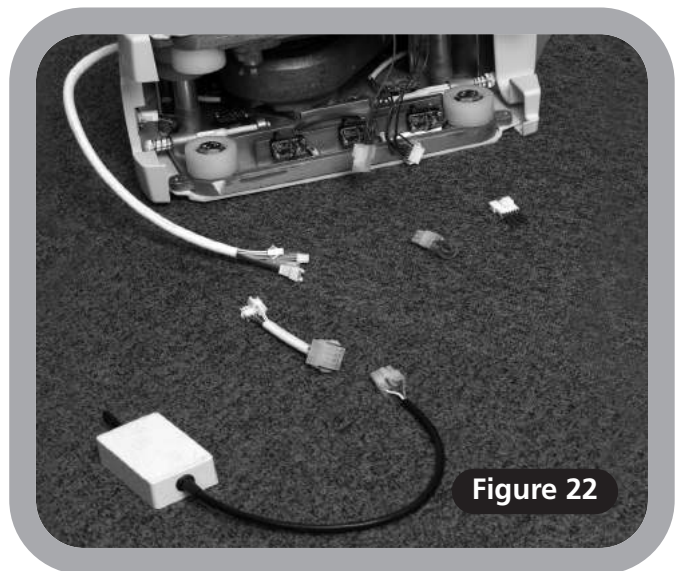

Figure 22
- 8 Clip on the stringer-side roller covers using the tacks provided. Then, with the track in approximately the correct position, put a screw into each foot to stabilise the track (**Figure 22**).
- 4 Remove the blanking plates from the side of the power pack that will be facing the stairs (**Figure 22**).
- 5 Connect the limit switch shorting links (**Figures 22 and 23**).
- 6 Connect the driving links (or loading toggle) (**Figures 22 and 23**).